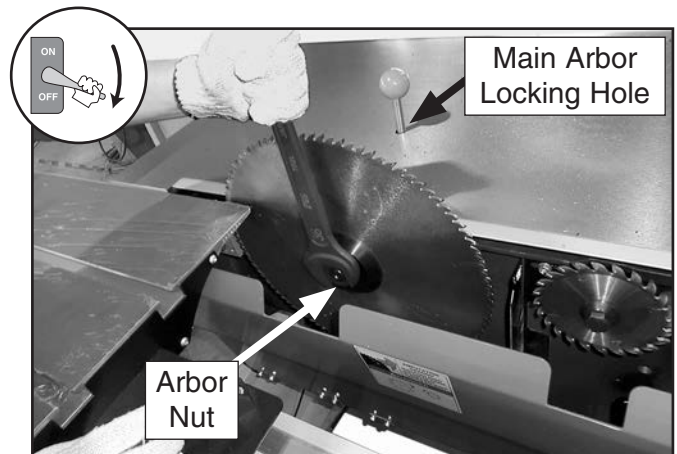

Figure 89. Loosening the main blade arbor nut.
6. Insert arbor locking tool into table hole shown in **Figure 89**.